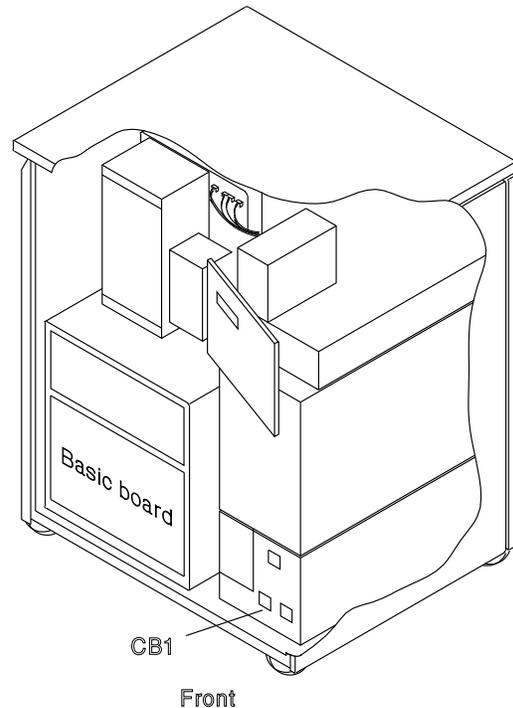

Figure 4-81. Basic Board and CB1 Locations
4. **Switch CB1 OFF.** Refer to Figure 4-81.
5. Locate the basic board. Refer to Figure 4-81.